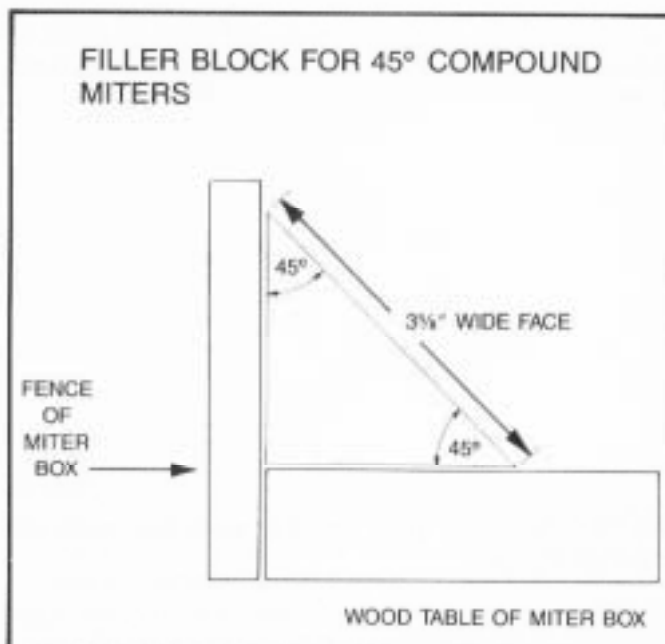

Fig. 47
1. Fig. 47, illustrates a filler block that can easily be constructed for use in cutting compound miters. Compound miters are used mostly for shadow box picture frames, etc. The face of the filler block is shown at 45 degrees to the fence and table. If a different work angle tilt is desired, simply vary the angle of the filler block face accordingly.
2. Although Fig. 47, illustrates the face of the filler block 3-5/8" wide, this dimension will vary depending on the material being cut.